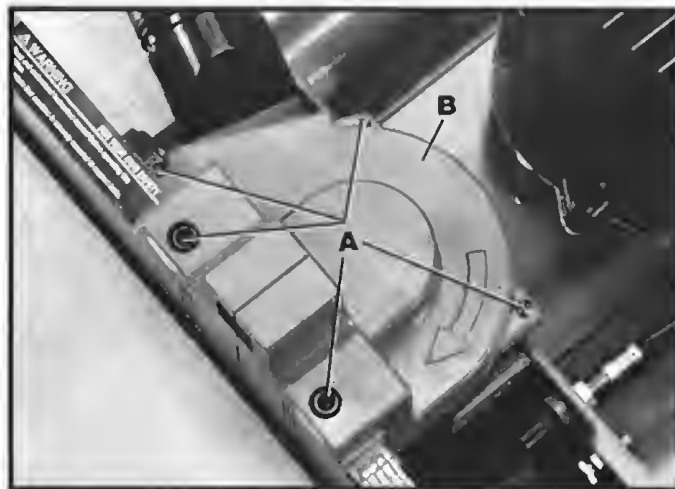

Fig. 31
2. Remove five screws (A) Fig. 31, and top cutter guard (B).